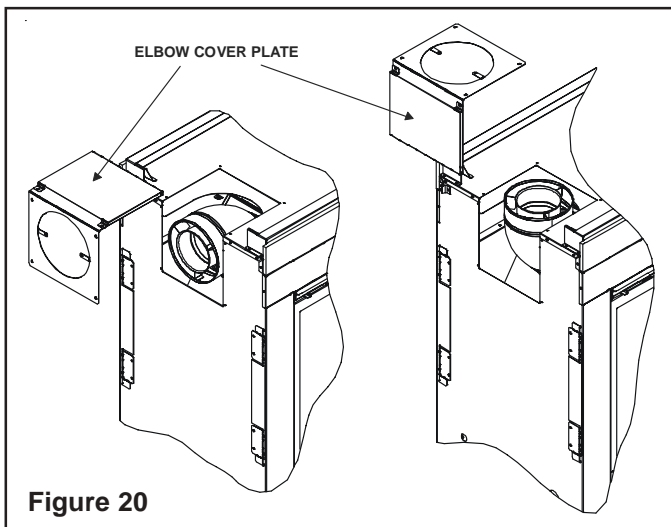

Figure 20
- To vent off the unit vertically, the elbow cover plate must first be removed from the unit (see Figure 20).